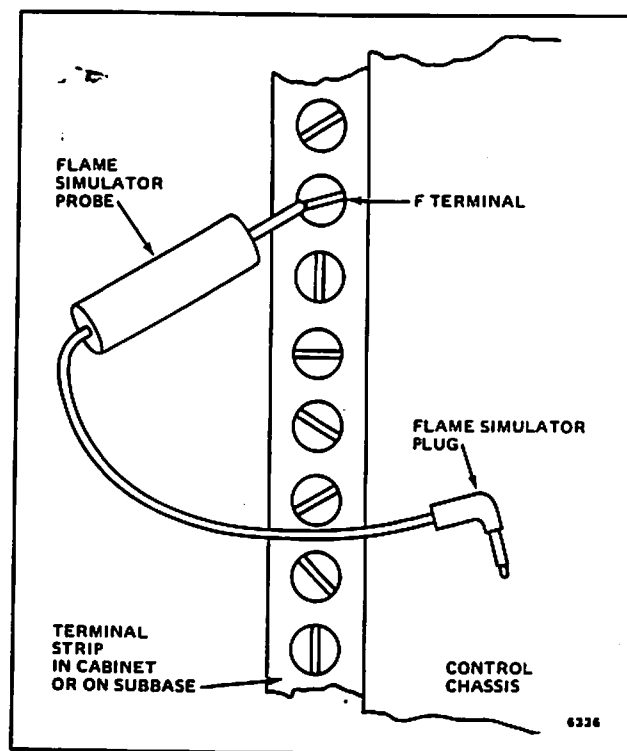

FIG. 23—USING A FLAME SIMULATOR.
- (1) Open the master switch and remove the flame detector leadwire from terminal F on the terminal strip. *Be sure the leadwire does not touch anything after removal.*
- (2) Close the master switch.
- (3) Touch the probe of a 123514A Flame Simulator to the F terminal on the terminal strip, and hold the plug (lead end) of the simulator against the R4138 chassis (Fig. 23). Relay 2K should pull in and stay in while the probe is on the F terminal and the plug is in contact with the chassis.
- (4) If relay 2K pulls in, the trouble is in the flame detector or its circuitry outside the R4138. Proceed to step 6.
- (5) If relay 2K does not pull in, open the master switch.
- (6) Replace the plug-in amplifier with a new one of the same part number.
- (7) Close the master switch.
- (8) Repeat (3).
- (9) If relay 2K pulls in, restore the R4138 to operating condition as instructed in step 6.a.
- (10) If relay 2K still does not pull in, replace the R4138.